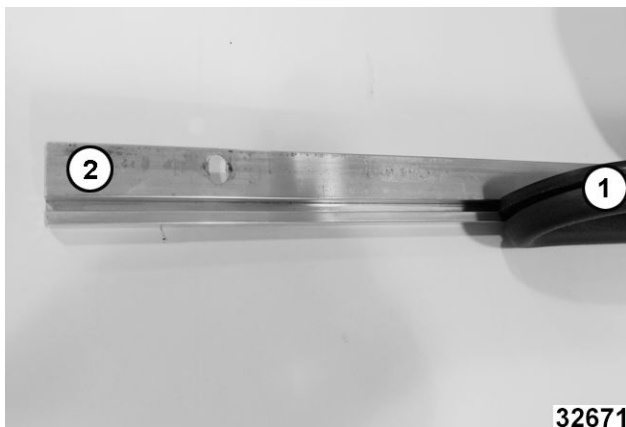

Fig. 30
3. Remove gasket (1, Fig. 30) from retainer (2, Fig. 30).